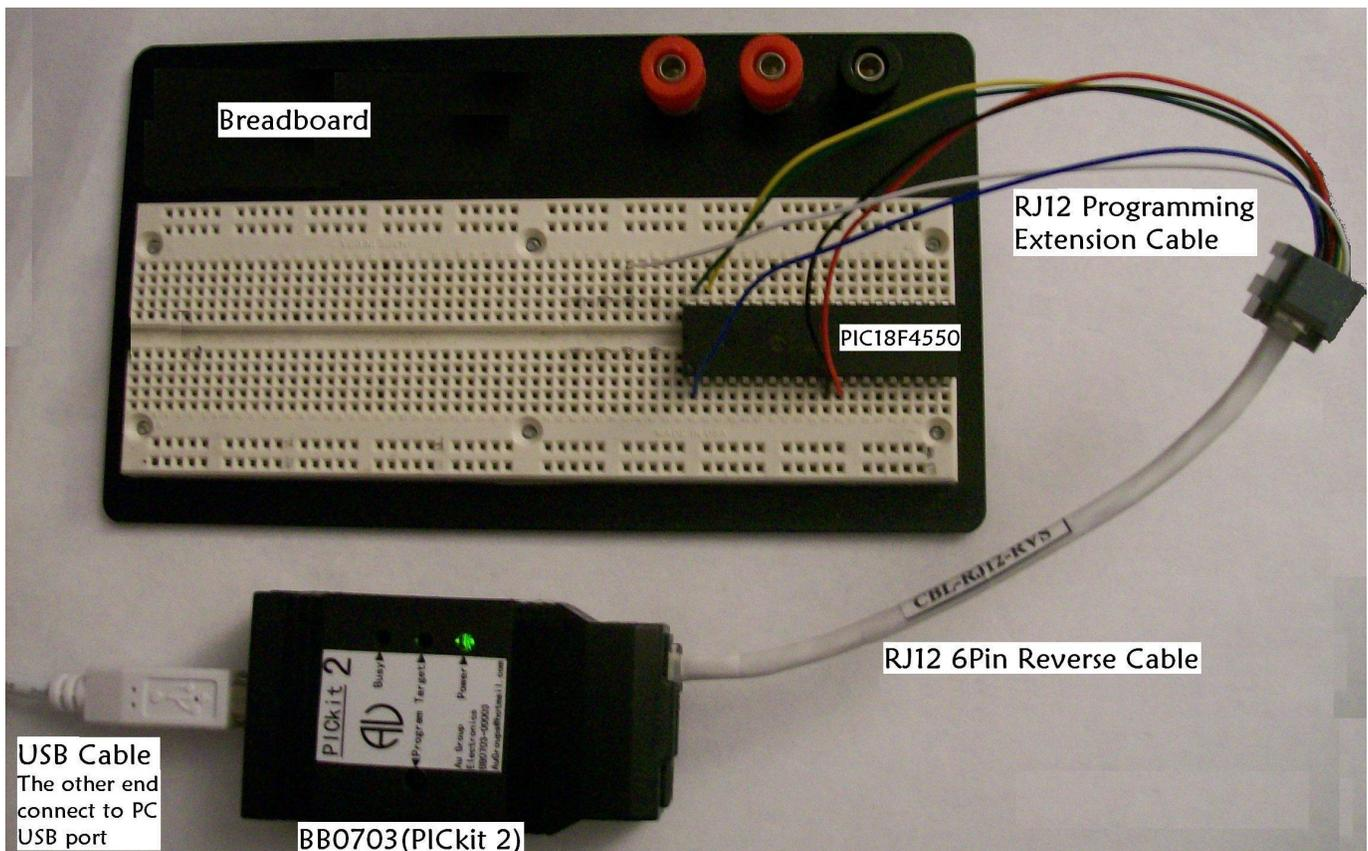

Figure 4 Demo connections with breadboard (using PIC18F4550)
After the target chip is connected as figure 4 shows, you may program the chip through one of the following application software: by using PICkit 2 Programmer or by using MPLAB IDE.
- 5. If more chips will be programmed, repeat 1-4 after a new blank-chip is installed as shown in figure 4. If same hex is used, you don't need re-load the hex file.